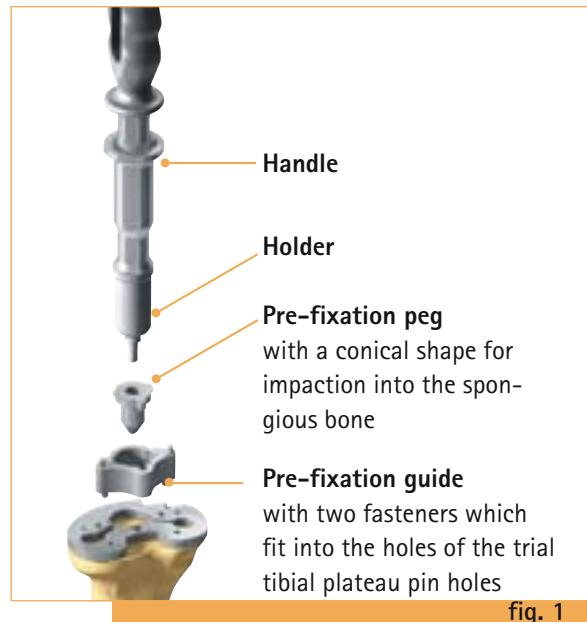

fig. 1
- Position the proper trial tibia plateau on the resected tibia in correct ML and AP position. Insert pre-fixation peg assembled with holder (fig. 1).